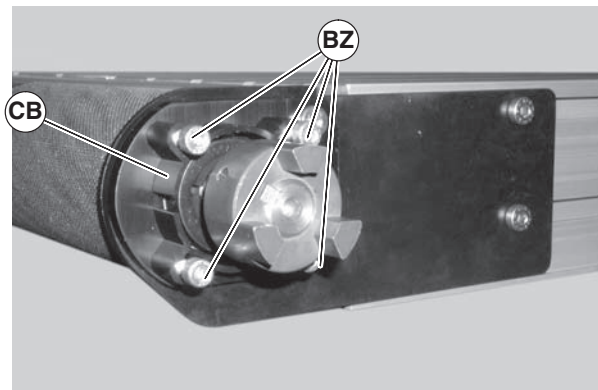

Figure 66
- d. Remove the four (4) lock screws (Figure 66, item BZ) and the short side drive guard (CB).